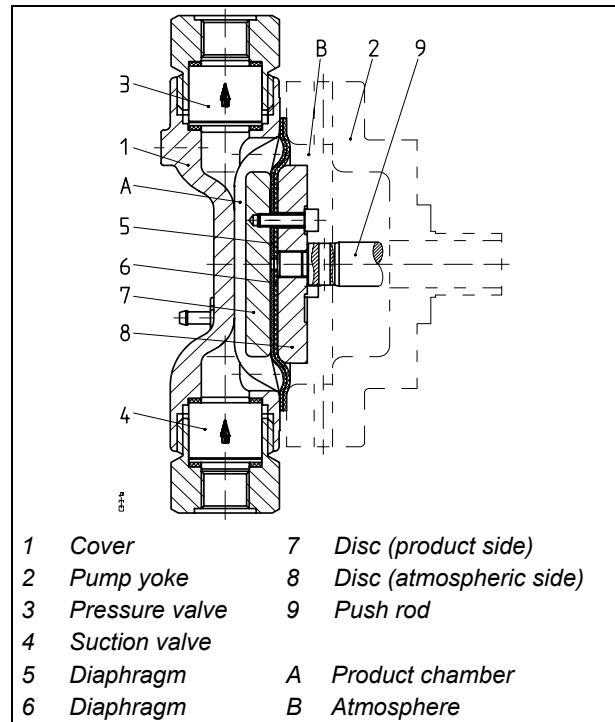
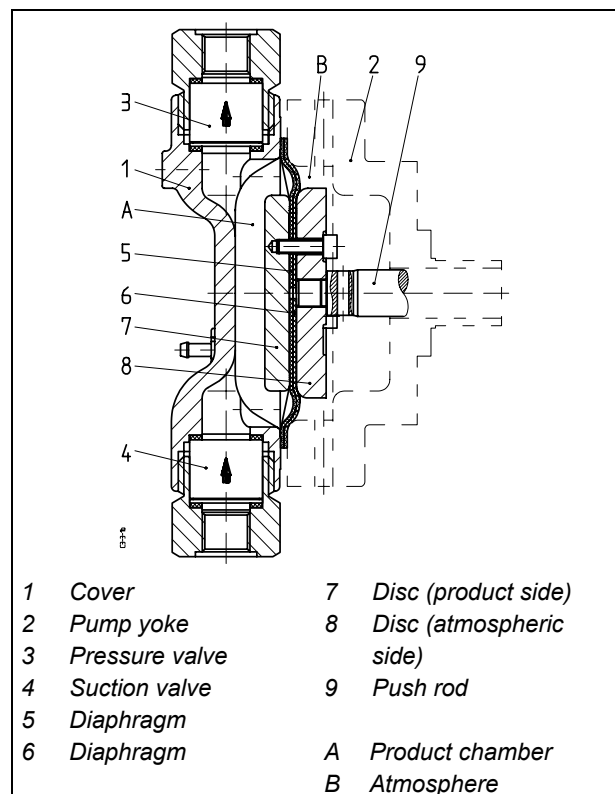

Fig. 3.1: Diaphragm at Front Dead Centre
Fig. 3.2: Diaphragm at Rear Dead Centre
- **Suction stroke:** Movement from front dead centre (Fig. 3.1) to rear dead centre (Fig. 3.2).
- **Pressure stroke:** Movement from rear dead centre (Fig. 3.2) to front dead centre (Fig. 3.1).